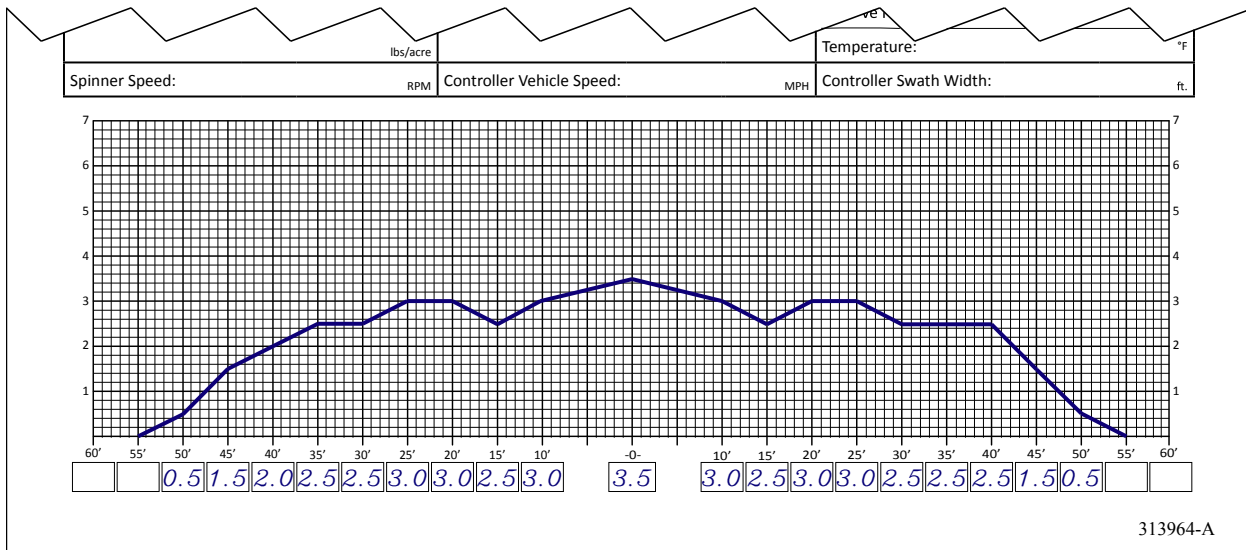

Figure 4
4. Record each test tube's volume in the box on the data sheet under the corresponding tray position and graph the spread pattern profile. See Figure 4.